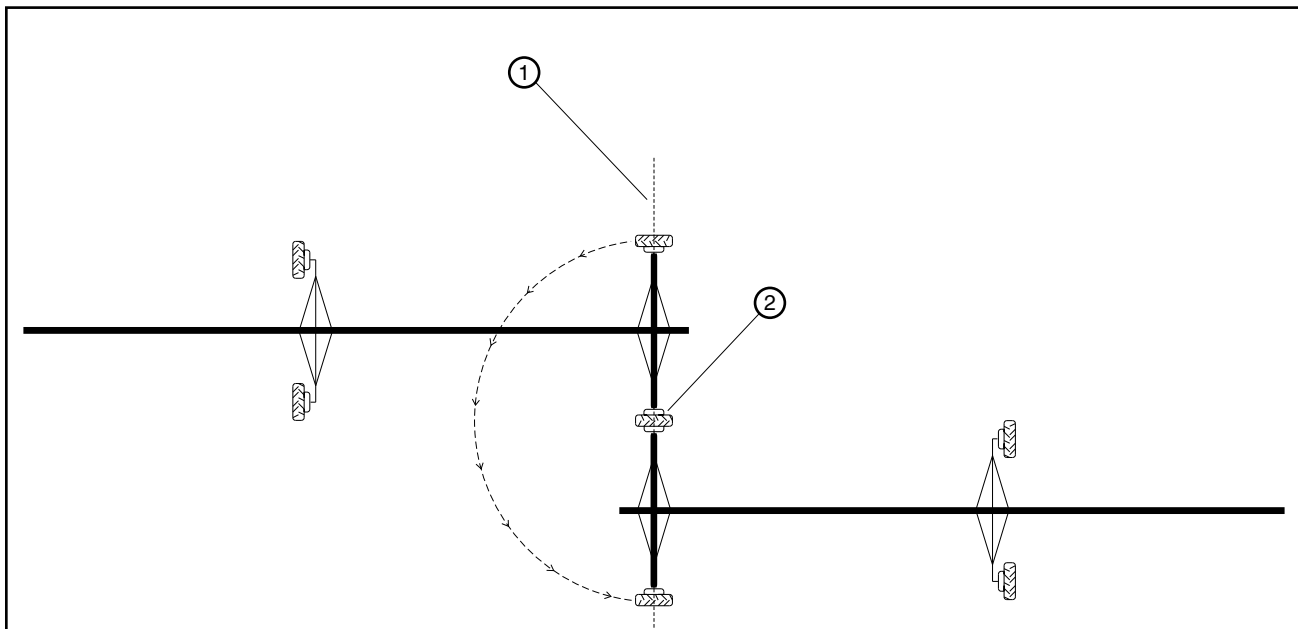

Figure 54-2 Fixed Wheel method.
7. When the machine is started it will pivot around the center of the fixed wheel. See figure 54-2.